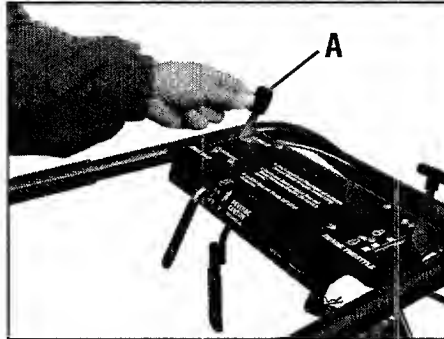

Figure 3-1: Wheel Gear Lever.
This lever (A, Figure 3-1) has two positions: ENGAGE and DISENGAGE.
**IMPORTANT:** The Forward Clutch Levers are connected to a mechanical interlock that automatically shifts the separate Wheel Gear Lever (A, Figure 3-1) into the ENGAGE position when either of the Forward Clutch Levers is lifted up against the handlebars. This is a safety feature designed to prevent the wheels from being in the DISENGAGE (freewheel) position when the tines are rotating.